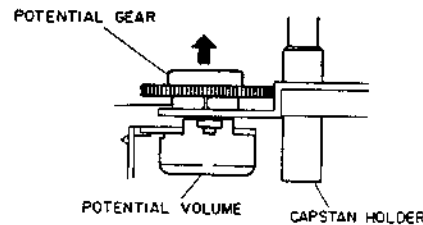

Fig. 3-14
- 4) Remove the potential gear. Unscrew the position potential volume securing nut. (Refer to Fig. 3-14.)